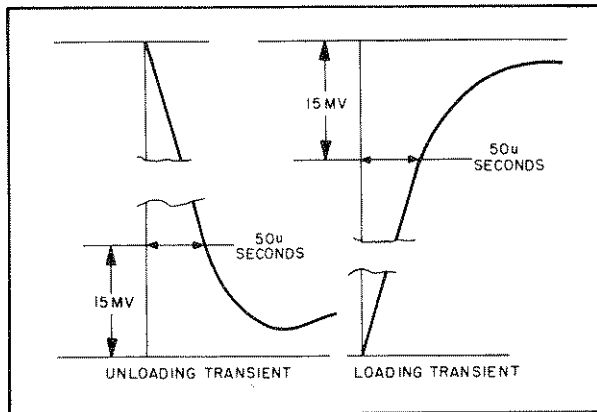

Figure 5-10. Transient Recovery Time, Waveforms
k. Starting from the major graticule division representative of time zero, count to the right 50  $\mu$ sec and vertically 10 mV. Recovery should be within these tolerances as illustrated in Figure 5-10